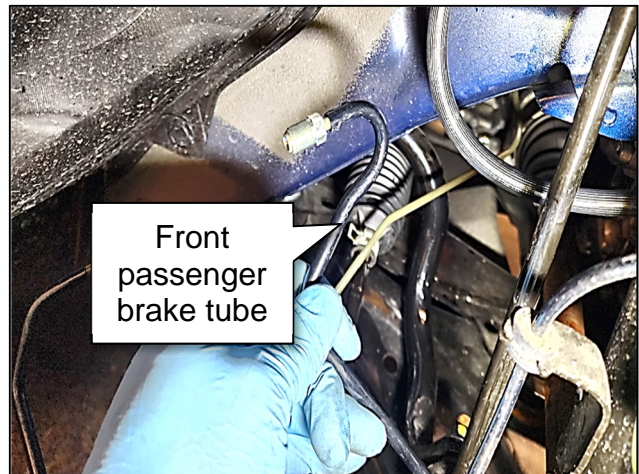

Figure 10
14. Remove the front passenger brake tube from the vehicle wheel well, as shown in Figure 10.